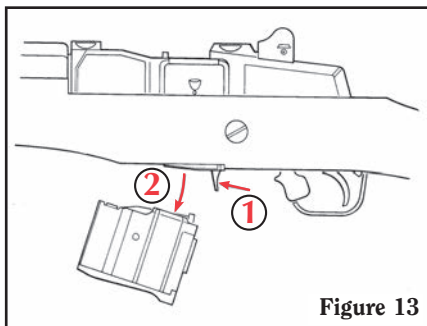

Figure 13
(STANDARD MINI-14® RANCH RIFLE SHOWN IN FIGURES 13 - 21)
1. **With the rifle pointing in a safe direction, safety “ON,”** remove the magazine by pushing catch forward to release magazine, while drawing magazine down and forward (see Figure 13).